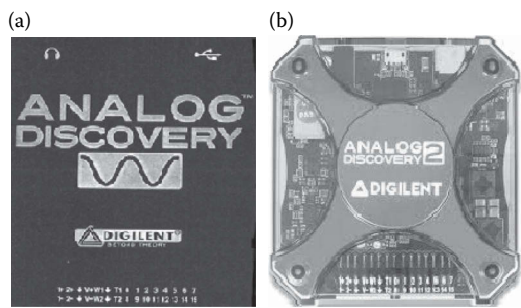

FIGURE 1.1
The Analog Discovery (AD) platform consists of an Analog Discovery board, shown in Figure 1.1, and virtual instrument software called WaveForms, which is described in Section 1.3.